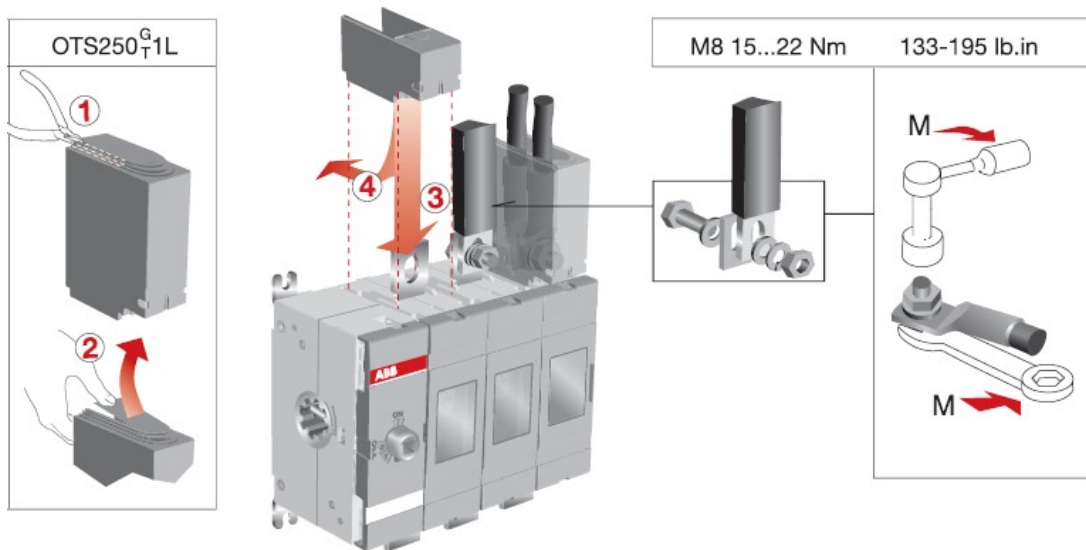

Figure 4: Connections to Main Isolator
For the following steps refer to Figure 4 and Figure 5 in this manual:
8. Install cable lugs onto terminals, fit washers/nuts & tighten – see Figure 4.